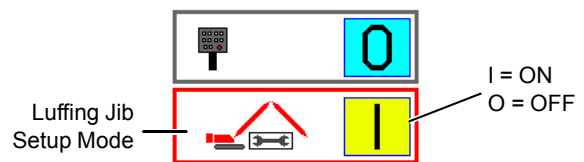

FIGURE 3-8
3. The screen shown in Figure 3-8 will appear on the display.